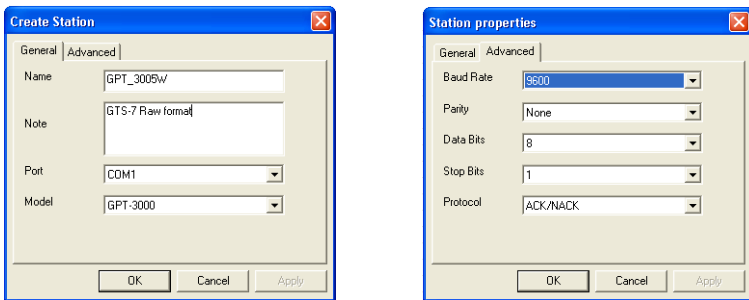

Figure 8-10. Total Station Properties
2. In the *General* tab of the *Create Station* dialog box, enter the following information and click **OK** (Figure 8-10).
3. In the *Advanced* tab of the *Create Station* dialog box, enter the baud rate, parity, data bits, stop bits, and protocol used for communication with the TS (Figure 8-10).